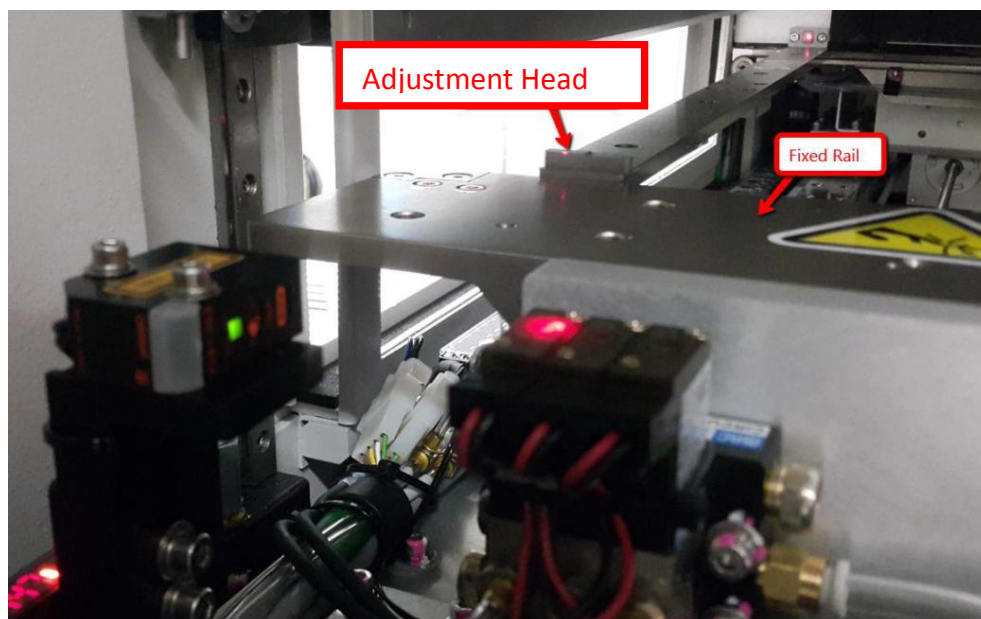

Figure 21 Filter Height Jig Position
9. Place 4XASS-357 (Filter Height Jig) where adjustment head require next to Fixed Rail as shown in the Figure 21